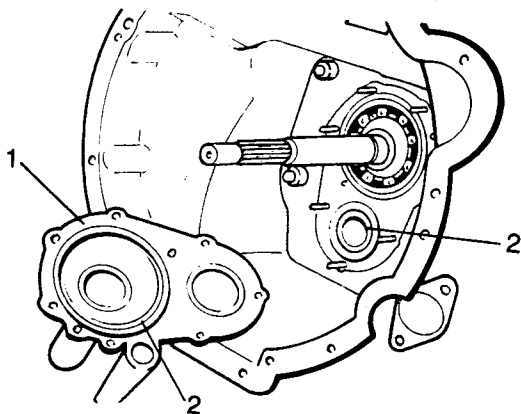

Fig H1.24
(1) Refer to Fig H1.24. Apply a film of Hermetical 600 on both faces of the gasket (1).
(2) Position the bearing adjusting washers of the primary shaft and the front bearing of the lay-shaft (2).
(3) Fit the cover and tighten the nuts to a torque of 20 to 25 N.m.